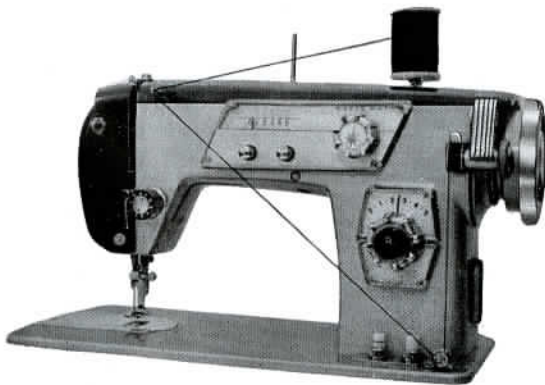

Fig. 2
2. Place a spool of thread on the spool pin. (Fig. 2)